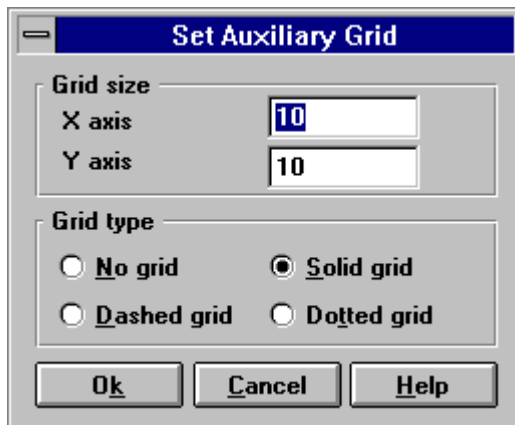

Fig 3.8 *Set Auxiliary Grid* dialog box.
**Options** | **Grid** command calls dialog box for setting auxiliary grid parameters (fig 3.8). In this dialog box you can enter the grid steps in horizontal and vertical directions and select grid line type (dashed, solid, dotted). "No grid" mode is also available.